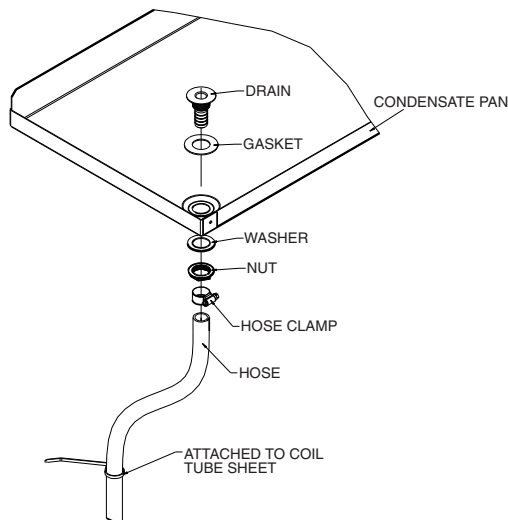

Fig. 96 — Install Drain Fittings
13. Install the drain fittings into the pan. Route and secure the hoses as shown in Fig. 96.